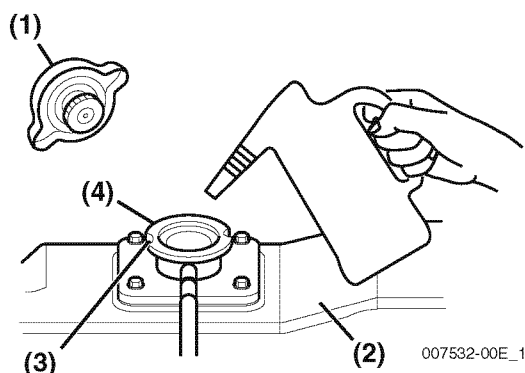

Figure 4-28
3. Remove the pressure cap (**Figure 4-28, (1)**) of the coolant tank (**Figure 4-28, (2)**) by turning the cap counterclockwise 1/3 of a turn.
4. Pour coolant slowly into the coolant tank so that air bubbles do not develop. Continue to pour until the coolant overflows from the supply port (Figure 4-28, (4)).
5. Install the cap (Figure 4-28, (1)) and turn clockwise 1/3 of a turn. Tighten the cap firmly. **WARNING! Burn Hazard. Always tighten the coolant tank cap securely.**